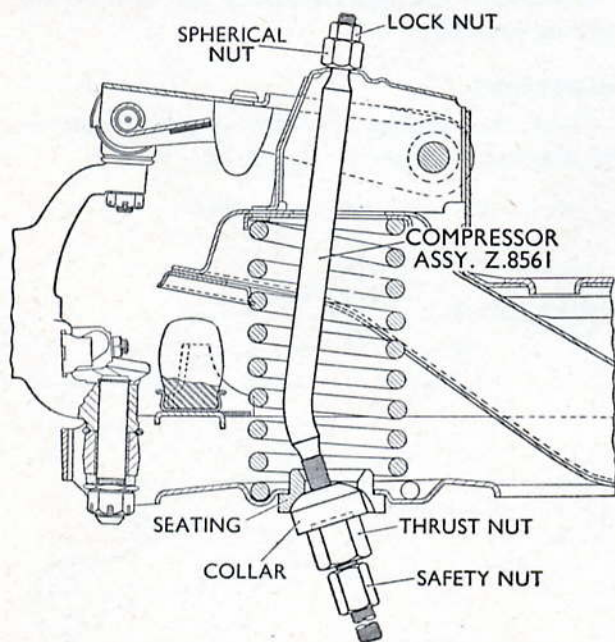

Fig. K.13. Operating position of spring compressor. The compressor screw must be positioned as shown
6. Using the compressor, shown in Fig. K.13, compress the spring as follows:
(d) Make sure the compressor screw is maintained in the position shown in Fig. K.13 during compression and release of the spring and keep the safety nut within a few threads of the thrust nut at all times.
1. Place the flat end of the spring into the cross-member and install the compressor as detailed under 'Removal', making sure the compressor screw is located as shown in Fig. K.13.